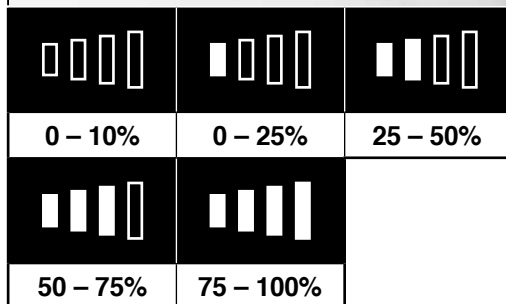

FIG. 11
6.13 BATTERY PACK CHARGE STATUS – FIG.11